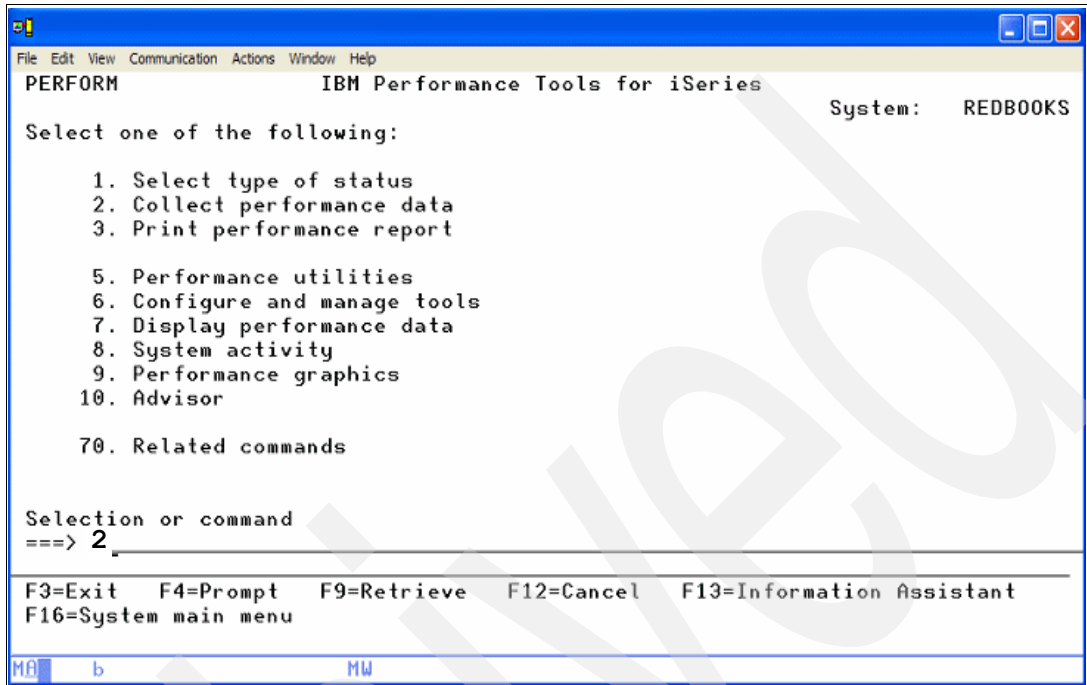

Figure A-2 Performance Tools main menu
2. Set the desired collection attributes, and then start Collection Services (if it is not currently running) or cycle the currently running collection (if it is already started). Select **2. Collect performance data** (Figure A-2).